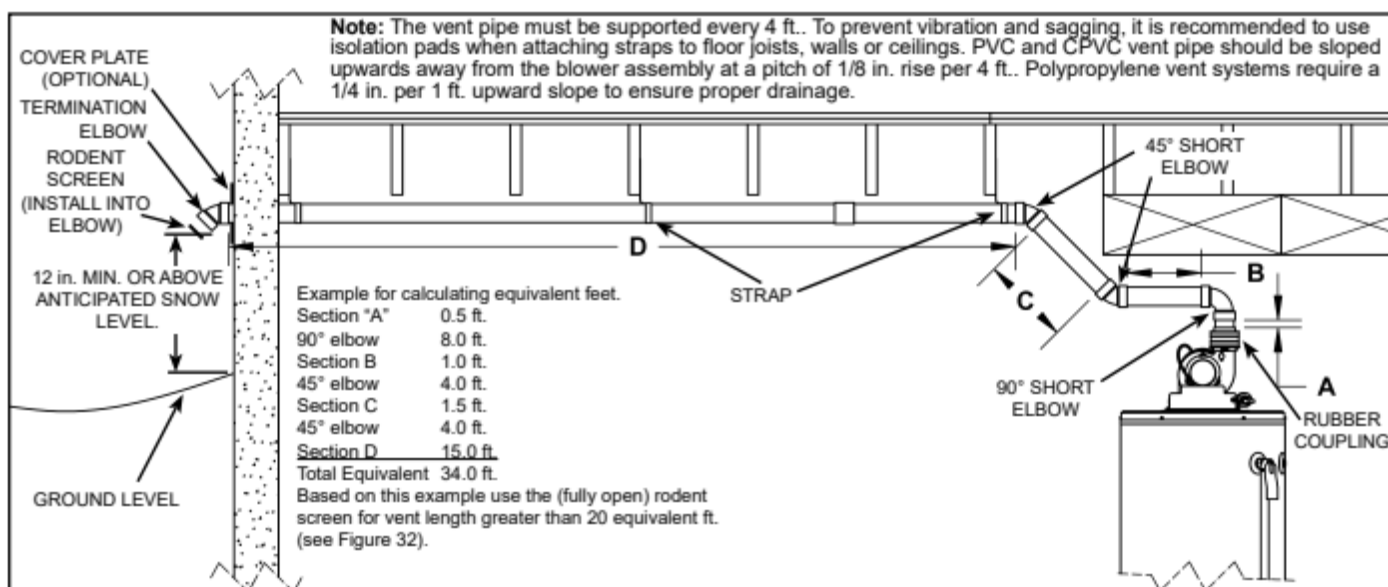
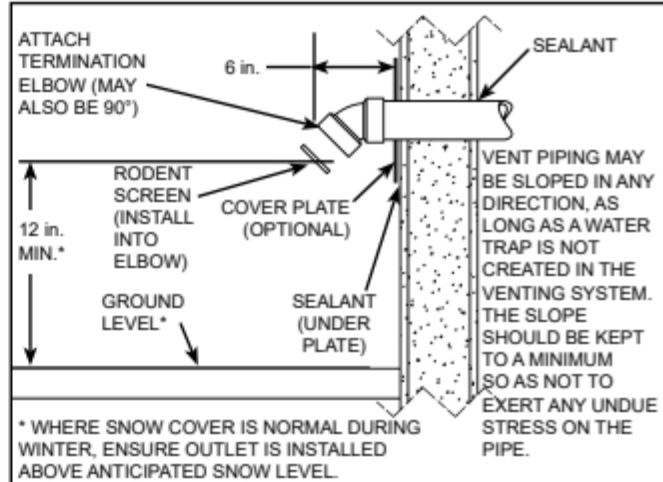
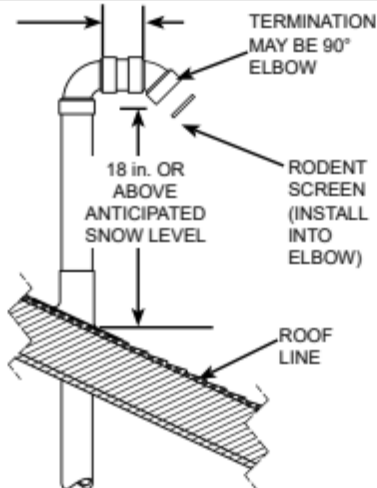
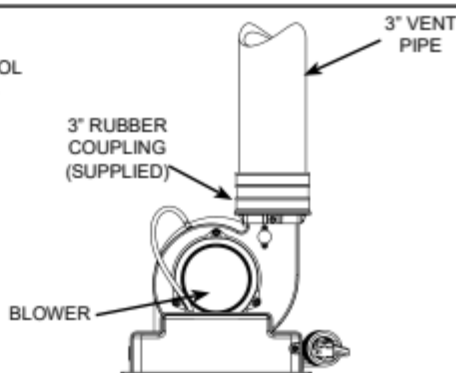

Figure 33.
Figure 34.
Figure 36.
Figure 37.
This heater is designed to exhaust the products of combustion (flue gases) to the outdoors using a sealed piping system. Table 2 lists the allowable vent materials and sizing information. Figure 33 shows the general venting layout while Figure 34 through Figure 36 show various end termination details and clearances. Connection of the venting piping to the blower is shown in Figure 37 through Figure 39.
5. Calculate "Equivalent Vent Length" before starting. Do not exceed the values shown in Table 2. An example of how this length is determined is shown in Figure 33. The value from your calculations should also be used to determine which rodent screen to install into the vent termination elbow.
9. Insert the vent piping through this hole and secure into position. Connect the vent pipe to the end termination elbow as shown in Figure 34 through Figure 36.
1. The vent piping connects into the rubber coupling located on the top of the blower assembly. This coupling includes gear clamps to connect the venting to the blower. These connections must be properly seated and tightened to prevent the leakage of flue gases into the area. See Figure 37 through Figure 39.